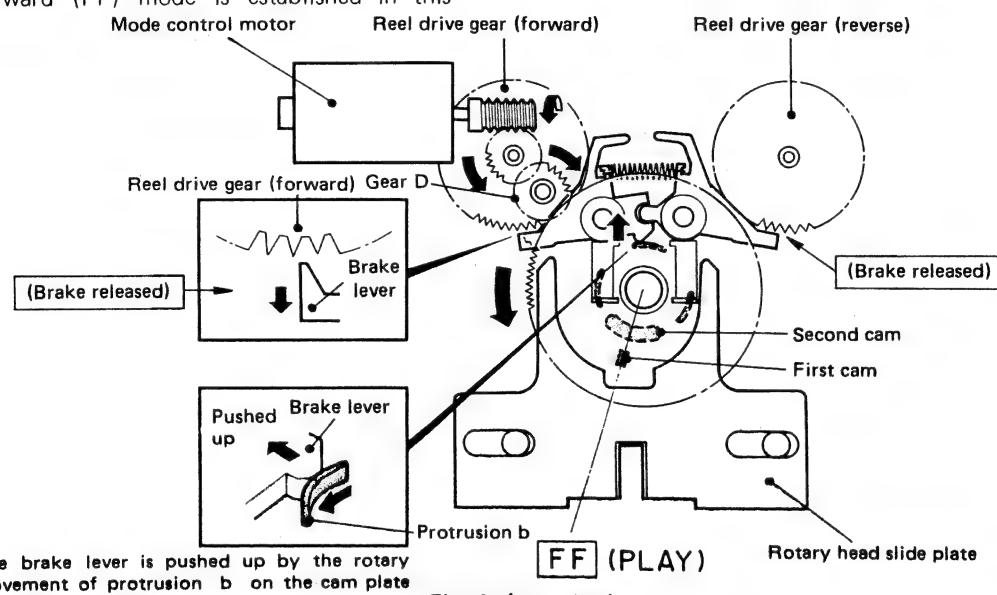

Fig. 4a (rear view)
B. Fast forward (FF) mode
- 1) When the FF button is pressed, the controller drives the mode control motor to rotate the cam disc plate in the direction of the arrow in Fig. 4a.
- 2) Thereby, the brake cam turns slightly clockwise and lifts up the triangular protrusion of the brake so that the brake is released as shown in Fig. 4a.
- 3) In addition, when the cam disc plate turns to the position shown in Fig. 4a, the fast forward (FF) mode code is generated by its associated code pattern.